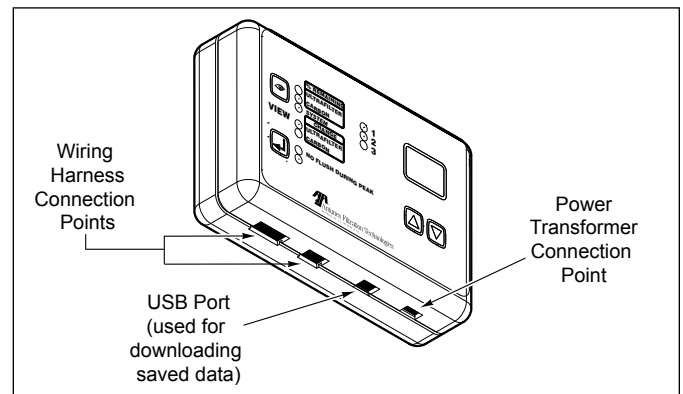

Figure 6. Smart Controller Inputs
2. Plug the two wiring harness connectors into the appropriate spots on the bottom of the Smart Controller (Figure 6).
1. After the system is mounted, connect the power supply to the bottom right of the Smart Controller (Figure 6).